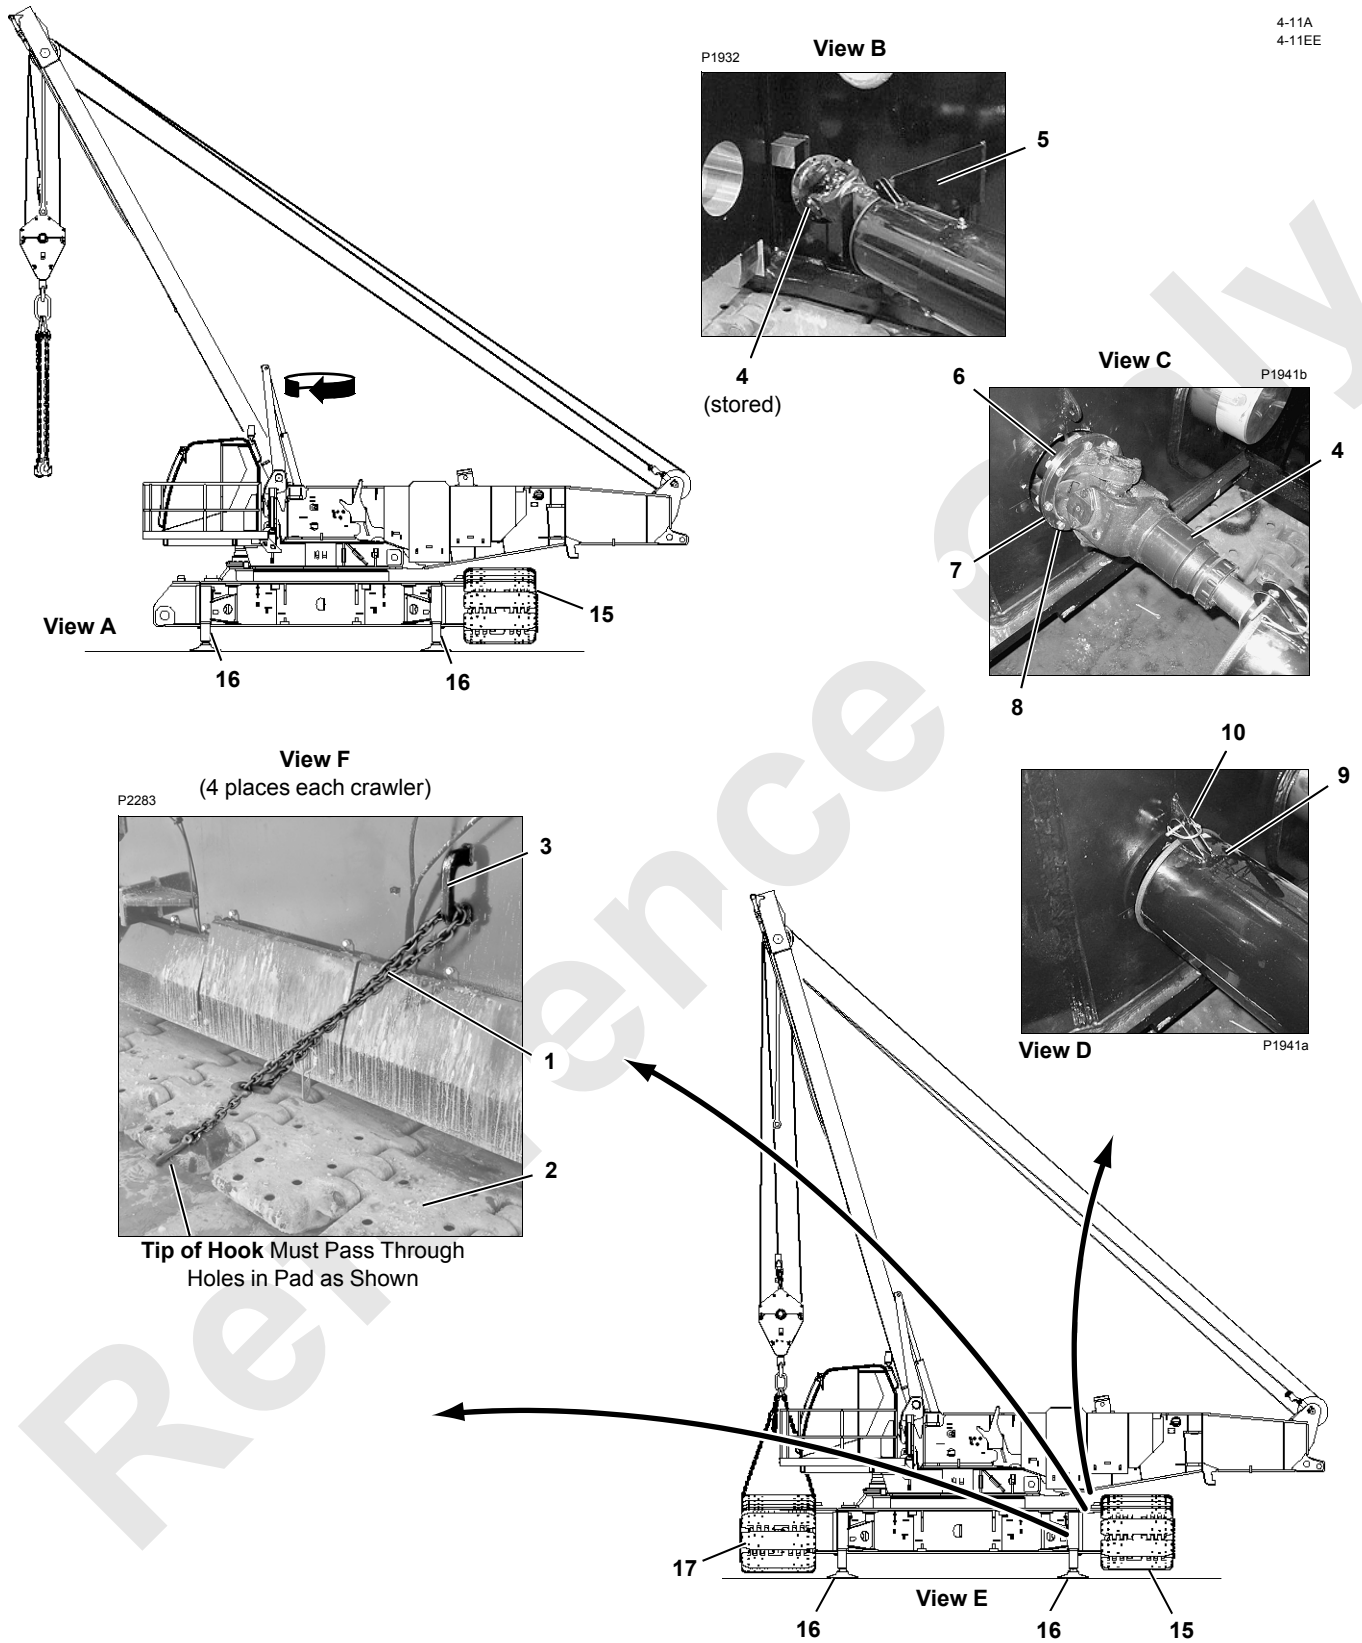

FIGURE 4-13
To prevent the crawler pads from sagging too much when the crawler is lifted, chains are installed between the crawler frames and pads (see Figure 4-13, View F). Some sag is necessary to prevent interference between the carbody and crawler pads.
9. Slowly lower the crawler, mast up, and swing to engage the holes in the crawler lugs (11, View C) with the fixed pins (12) in the carbody.
**Legend for Figure 4-13**
See Figure 4-13 for the following procedure: